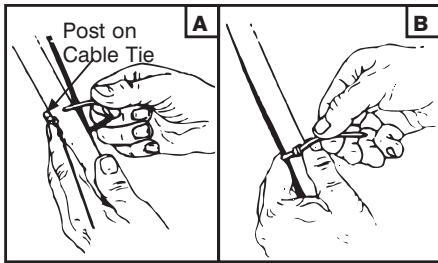

Figure 6
- Insert posts on cable ties into holes provided on the handle, one on the upper handle and one on the lower handle. The holes may be either on the inside or outside of the handles. See Figure 6.
- Secure the cable with the cable ties. See Figure 6. Trim excess ends of cable ties.